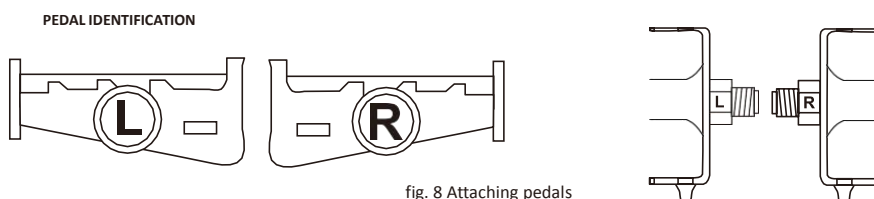

fig. 8 Attaching pedals
Step 4 Attaching Pedals(refer to fig. 8) :